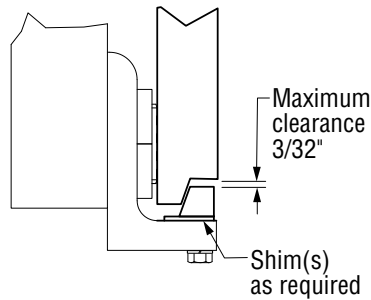

Figure 4-3, Lower Hook Clearance
7. Adjust the lower hooks for a maximum clearance of 3/32" (see Figure 4-3). Tighten the bolts to 40-50 ft-lbs.